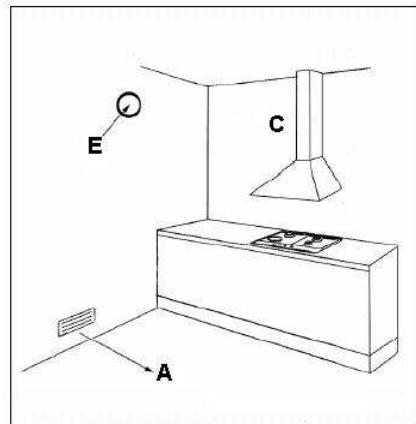

Figure 4.
See figure 4 below.
Combustion fumes produced by gas appliances must get outside by means of a hood (C) connected either directly to an exhaust duct or to the outside. See **figure 4** above.
If a hood cannot be installed, an electric extractor fan (E) must be fitted to the outside wall or the window. See **figure 4** above. This electric extractor fan must have a sufficient capacity to guarantee a change of air of the kitchen (or area) of at least 3 to 5 times its volume.